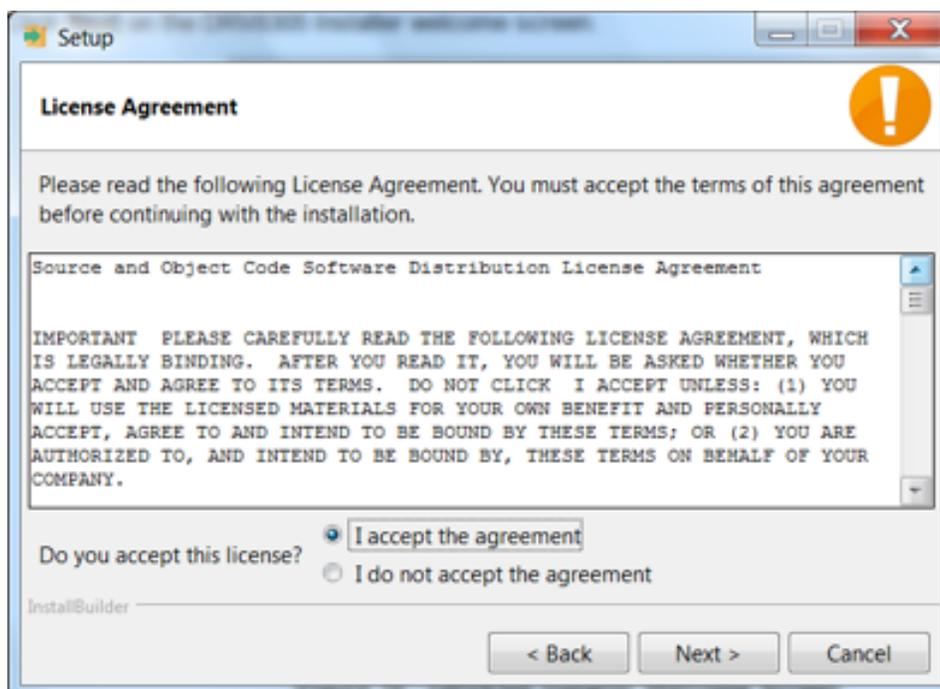

Figure 17. DRV832XX Software License Agreement
- Step 4. Read through and accept the license agreement to proceed with the installation (see Figure 17).